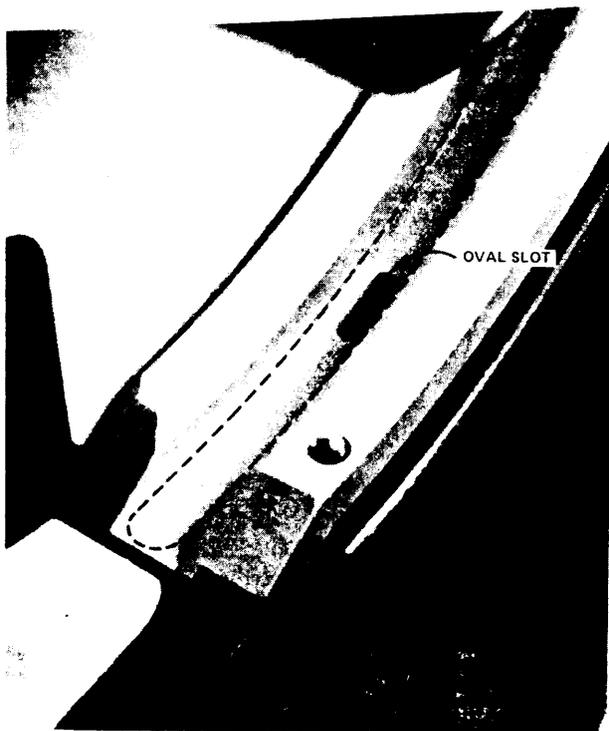

Figure C-47
Tape thread failure	Damaged leaders are the usual cause of failure to thread. Remove all folds and creases in leader and cut square with scissors or leader crimp tool. For satisfactory canister operation the leader should have 2000 to 2400 feet of tape. If this procedure fails, thread and notify the Field Engineer. (Refer to Figure C-47).
3. Preposition the leader into the ramp so that the leader is at the extreme left end of the ramp covering the oval slot on the MTU0400/0500 (see Figure C-47).